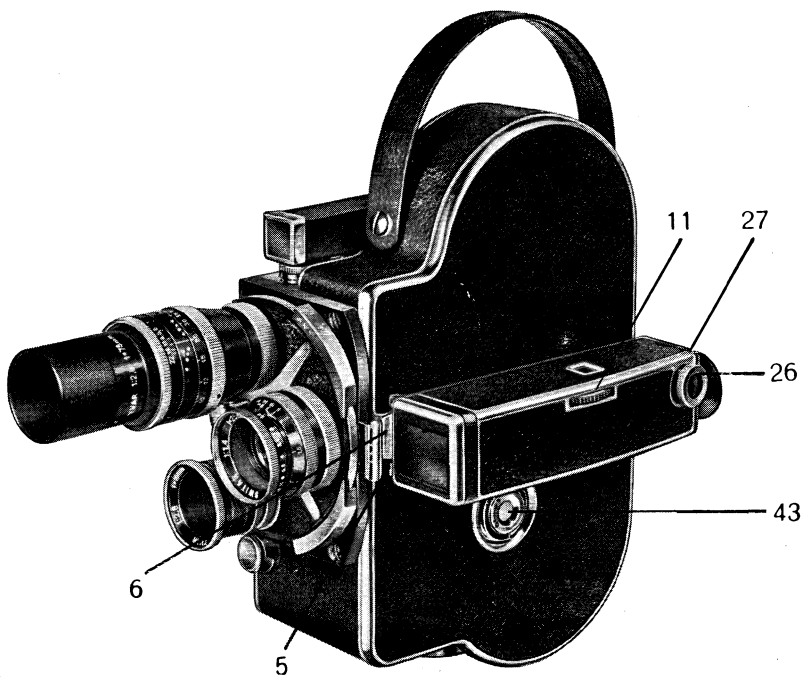

Fig. 9
- e. Remove the lid by means of button **43** (Fig. 9), giving a half-turn anti-clockwise (0←—).